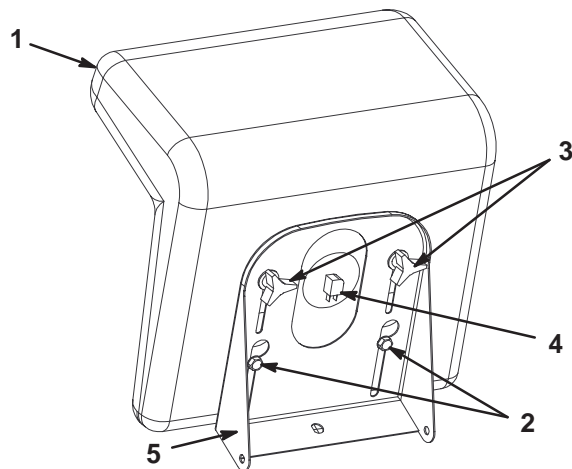

Figure 4
1. Position the seat onto the seat base by inserting 2 shoulder bolts through the key hole openings at the end of both slots (Fig. 4).
2. Thread the knobs and flat washers through the slots and into the rear center holes in the seat (Fig. 4).
4. Connect the seat switch (Fig. 4) to the wire harness connector.